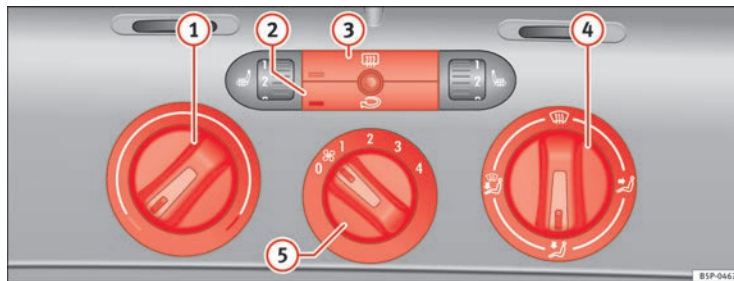

Fig. 126 On the dash panel there are the heating controls
- Using the controls ⇒ fig. 126 ① and ④ and the control ⑤ you can set the temperature, air distribution and the turbine speed.
- To switch a function on or off, press the appropriate button ② or ③. When the function is activated, the display window in the lower left of the button is lit.